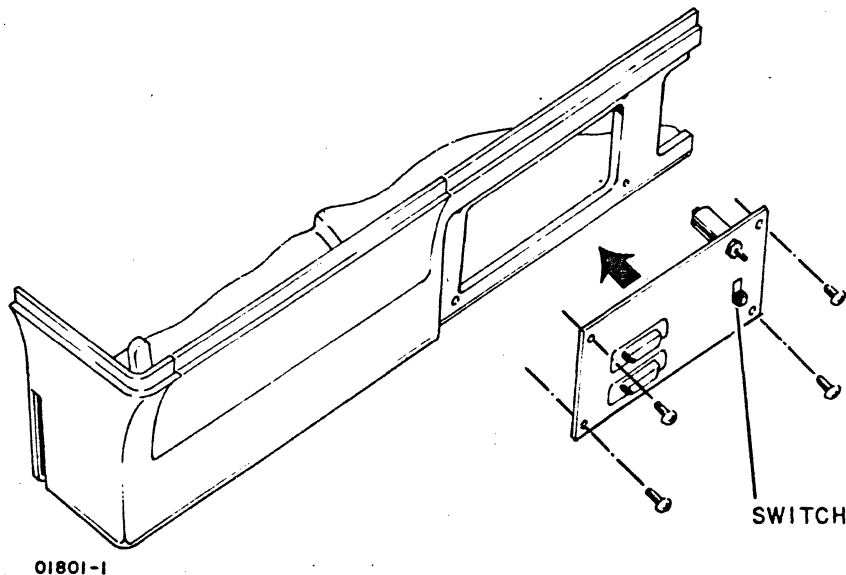

Figure CRT6. TEST/NORMAL Switch Removal
- 2) Remove four mounting screws which hold panel to chassis (figure CRT6).